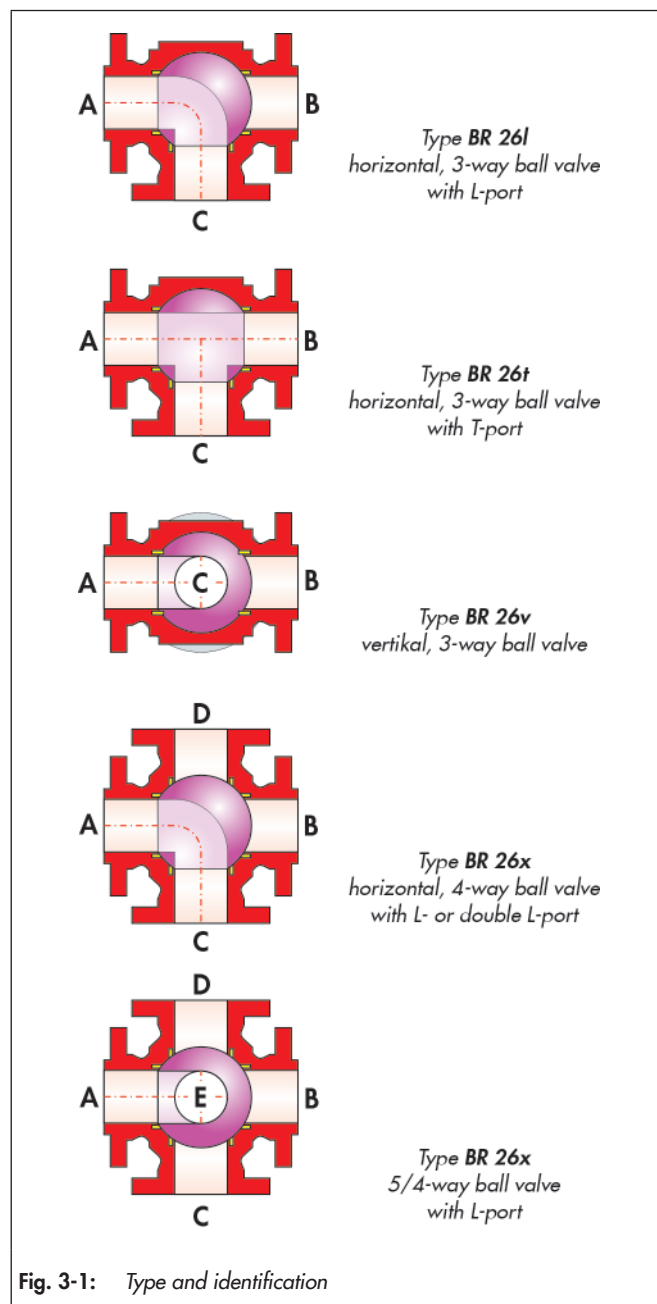

Fig. 3-1: Type and identification
- Various designs, see Fig. 3-1